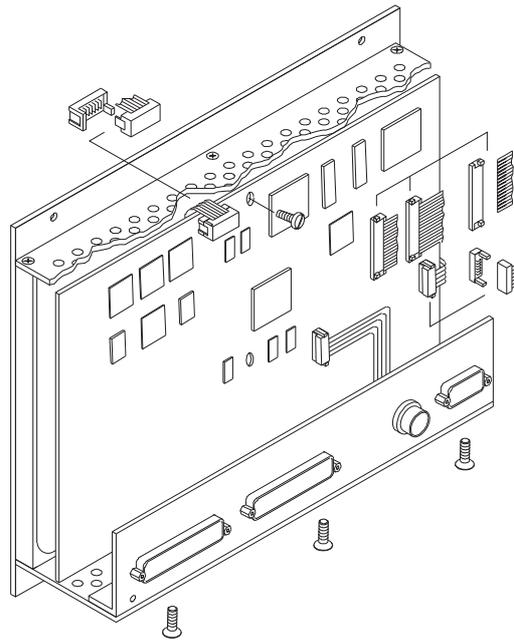

Fig. E 8-13: Loosening the mounting unit of main pcb and connector panel
4. Take out the screws fixing the main pcb. Remove the screws at the bottom of the SurroundMonitor which hold the connector panel in place. Carefully remove the mounting unit of connector panel and main pcb (Fig. E 8-13). Assure not to damage the cables!